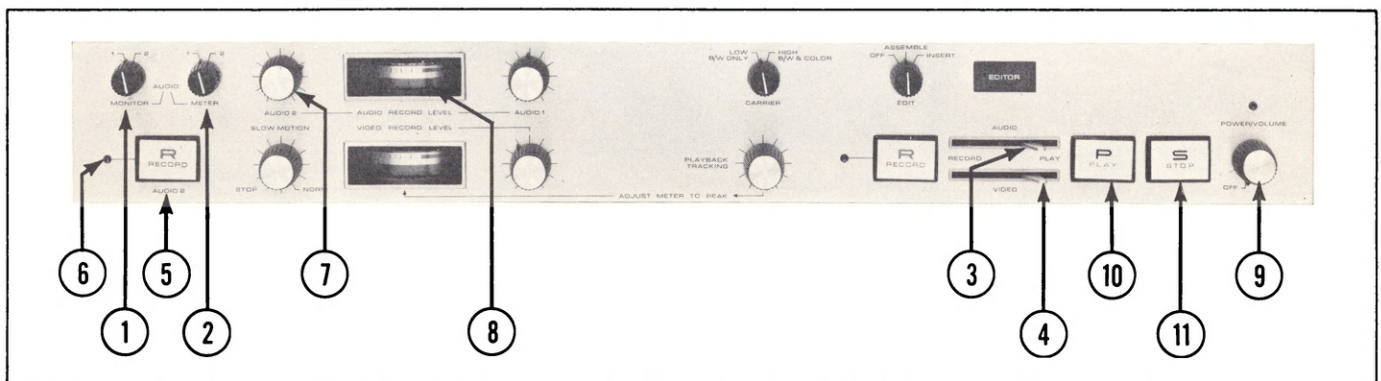

Figure 13 Recording Audio 2 Channel Only Operation
2. Set the Audio Monitor and Meter selectors (item 1 and 2, figure 13) to the "2" position.
3. Ensure that the Audio and Video Record/Play levers (item 3 and 4, figure 13) are in the right-hand (PLAY) position.
4. Momentarily depress the Audio 2 Record button (item 5, figure 13). Note that the Audio 2 Record Indicator (item 6, figure 13) lights, which indicates that the audio 2 channel circuitry is activated and in the RECORD STANDBY mode.
5. Adjust the Audio 2 Record Level control (item 7, figure 13) for a 100% indication (during peak sound levels) on the Audio Record Level meter (item 8, figure 13). The Power/Volume control (item 9, figure 13) can be turned up to monitor the audio 2 input from the internal speaker if desired.
6. Depress, and hold down, the Audio 2 Record button (item 5, figure 13) while simultaneously depressing the Play button (item 10, figure 13) to begin tape movement and recording audio 2.
7. To terminate the recording, depress the Stop button (item 11, figure 13). This not only stops the tape movement, but de-activates the audio 2 channel from the RECORD STANDBY mode. Thus in order to begin recording again, it will be necessary to repeat step 6.